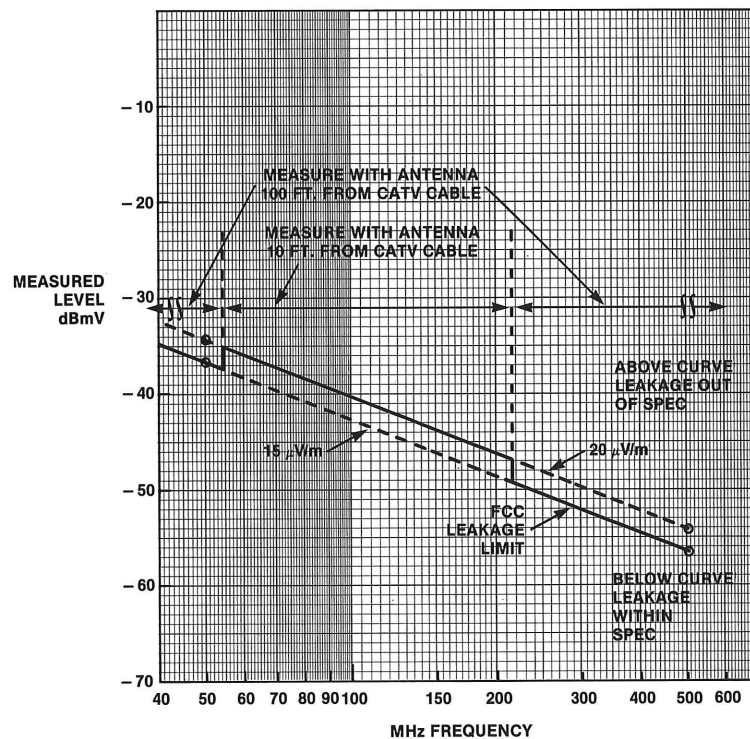

Figure 11-2. FCC leakage specifications as measured with a $\frac{1}{2}\lambda$ dipole.
6. Plot the measured values on a copy of figure 11-2. The measured values must be increased by the loss of the balun and the cable before being plotted.
EXAMPLE: The measured leakage signal amplitude is -53 dBmV. Balun and cable loss together are 2 dB. Plot -51 dBmV on figure 11-2.